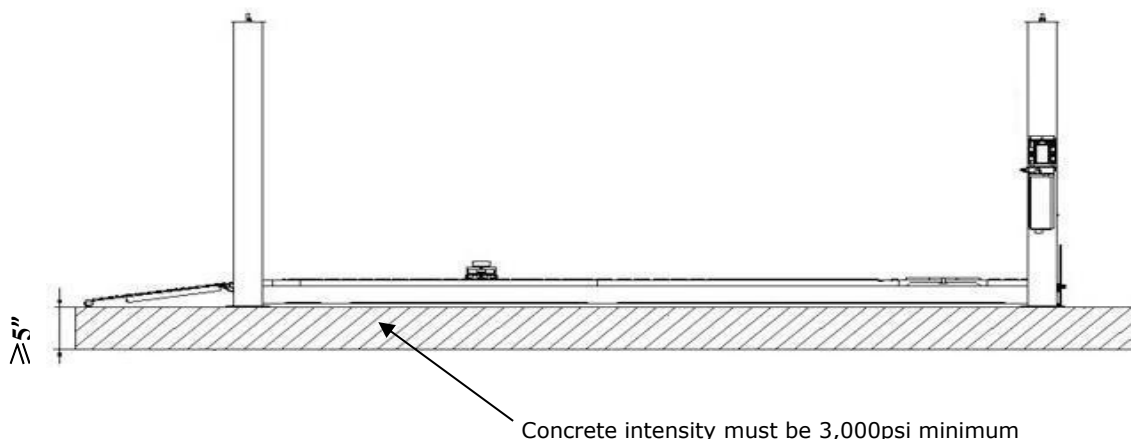

Fig. 3
C. SPECIFICATIONS OF CONCRETE (See Fig. 3)